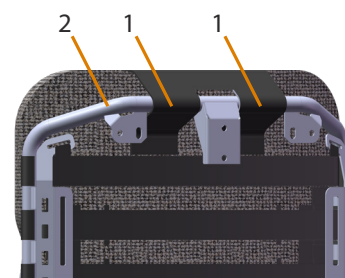

Figure 13. Straps fastened around Flexi frame
- Attach the straps (1 in Figure 13) at the top of the cushion around the Flexi back's tubes (2) with velcro as shown (If a solid back is used the velcro attaches to the back of it). Securing the cushion vertically reduces the risk of the cushion sliding down when moving in to and out of the wheelchair.